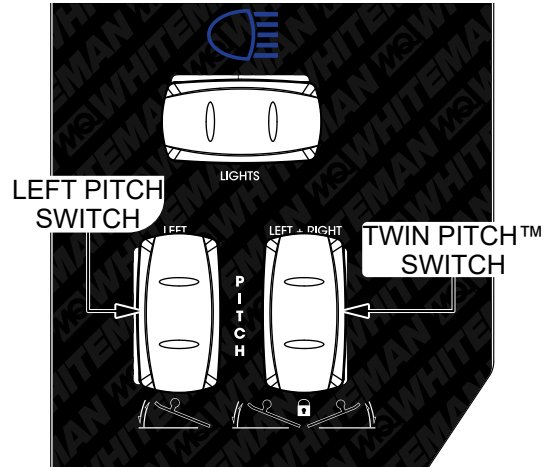

Figure 27. Blade Pitch Switches
1. Press **UP** or **DOWN** on the **Twin Pitch™ switch** (Figure 27) to change pitch on both rotors simultaneously (but non-synchronously).
2. Press **UP** or **DOWN** on the **Left Pitch switch** (Figure 27) to change pitch on the left rotor only. The right rotor pitch will remain constant.